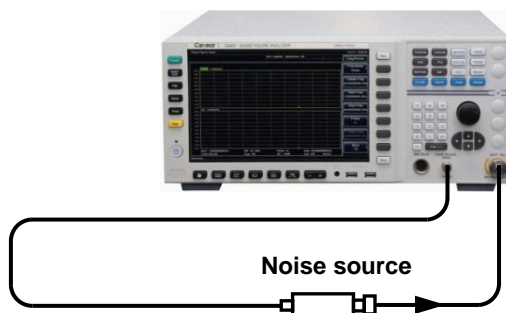

Figure 3.1 Diagram of Calibration Connection with Normal Noise Source
Step7. As shown in Figure 3.1, connect the noise source drive input end to the 28V noise source drive port on the noise figure analyzer panel with a BNC cable. (When an smart noise source is used, connect to the smart noise source drive port on the noise figure analyzer panel with a multi-core cable), and connect the noise source output to the input port (50Ω) of the noise figure analyzer;